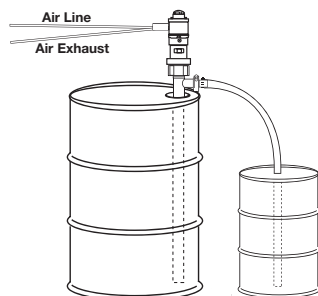

Figure 2
3. It is recommended to attach a suitable hose or pipe to the pump discharge (see Figure 2).